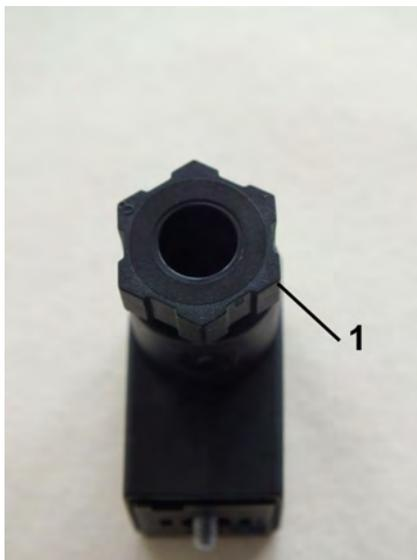

Fig. 24: Disconnect the screw connection
4.  Unscrew the screw connection (Fig. 24/1) by turning in the left direction
8.  Retighten the screw connection (Fig. 24/1) by turning it to the right